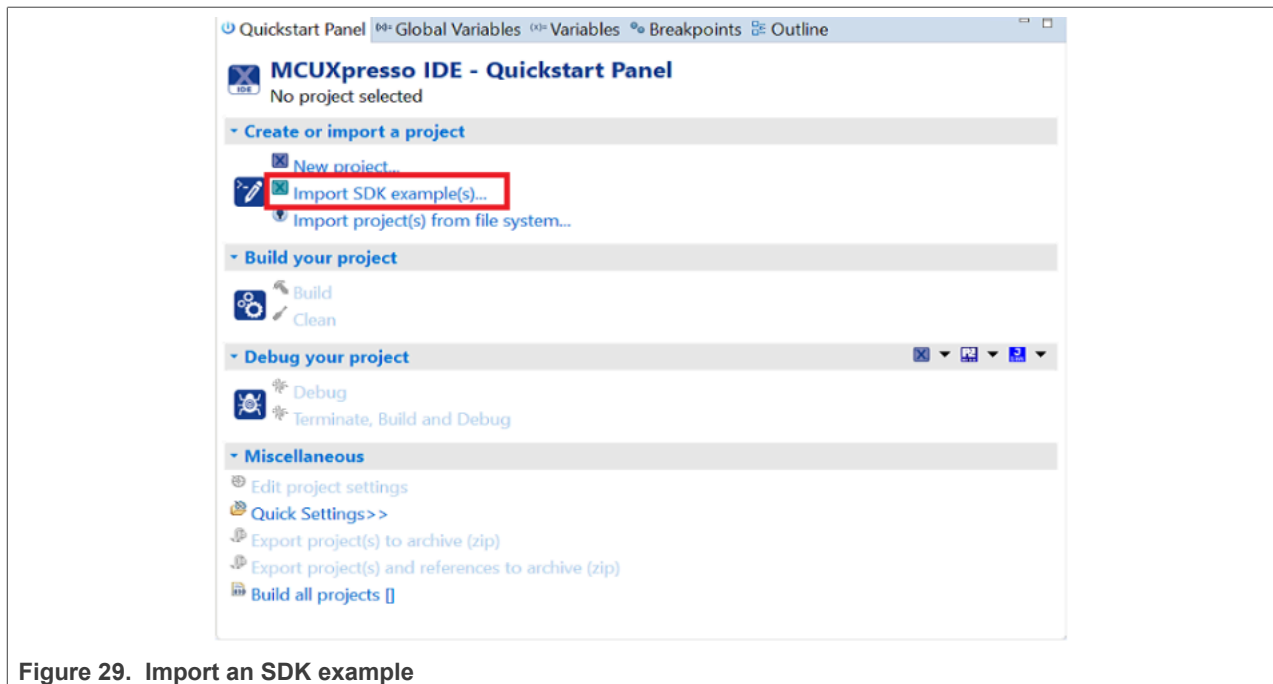

Figure 29. Import an SDK example
2. On the **Quickstart Panel**, click **Import SDK example(s)...**, as shown in Figure 29.